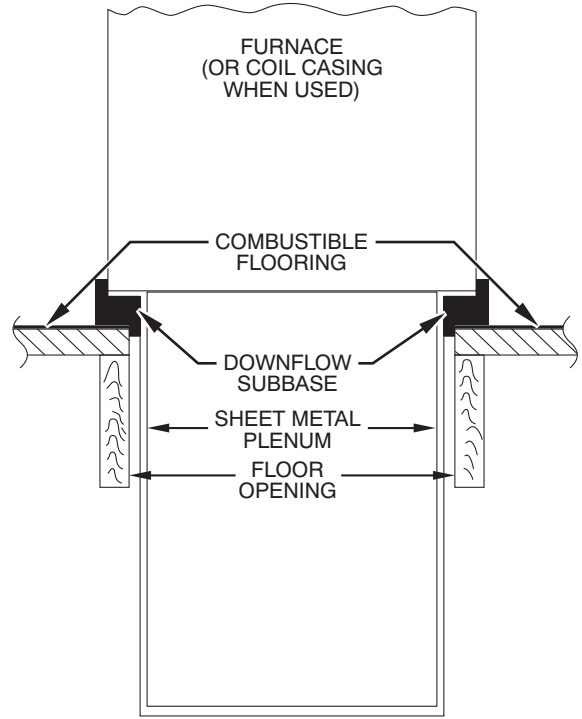
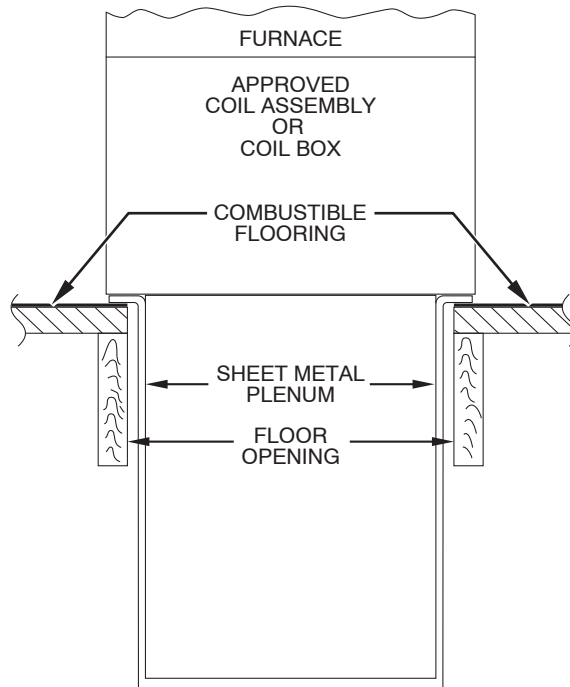

Fig. 12 - Furnace, Plenum, and Subbase Installed on a Combustible Floor
Fig. 13 - Furnace, Plenum, and Coil Assembly or Coil Box Installed on a Combustible Floor
4. If downflow subbase, KGASB is used, install as shown in Fig. 12. If Coil Assembly Part No. CAPVP, CAPMP, and CNPVP or Coil Box Part No. KCAKC is used, install as shown in Fig. 13.